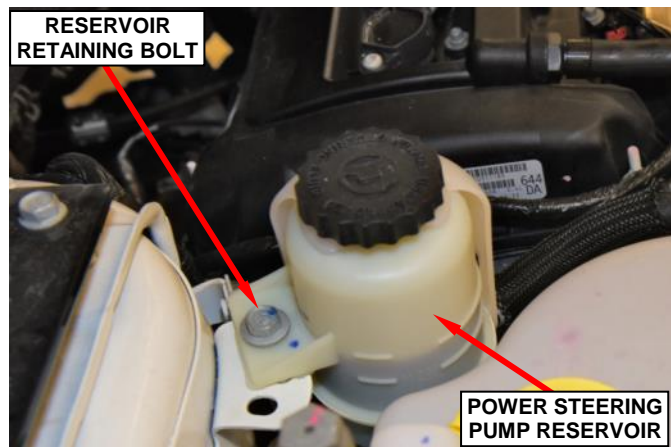

Figure 76 – Power Steering Reservoir
33. Remove and save the power steering reservoir retaining bolt (Figure 76).